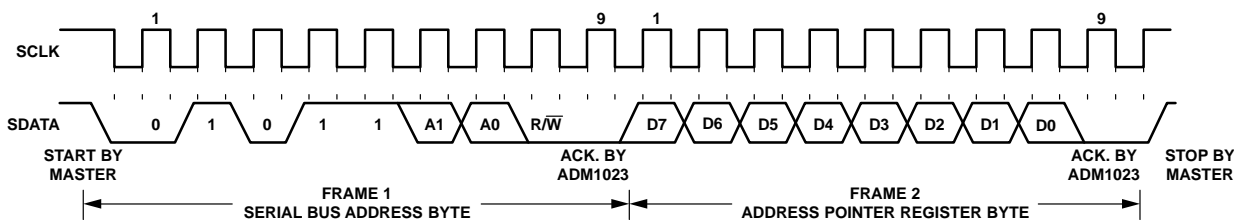

Figure 16. Writing to the Address Pointer Register Only
1. If the ADM1023's address pointer register value is unknown or not the desired value, it is necessary to set it to the correct value before data can be read from the desired data register. This is done by performing a write to the ADM1023 as before, but only the data byte containing the register read address is sent, as data is not to be written to the register. This is shown in Figure 16.